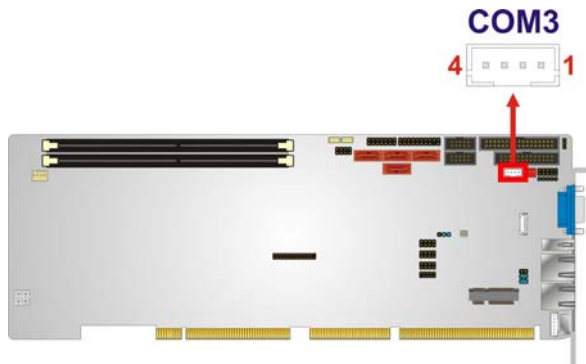

Figure 3-20: RS-422/485 Connector Location
- CN Location:** See Figure 3-20